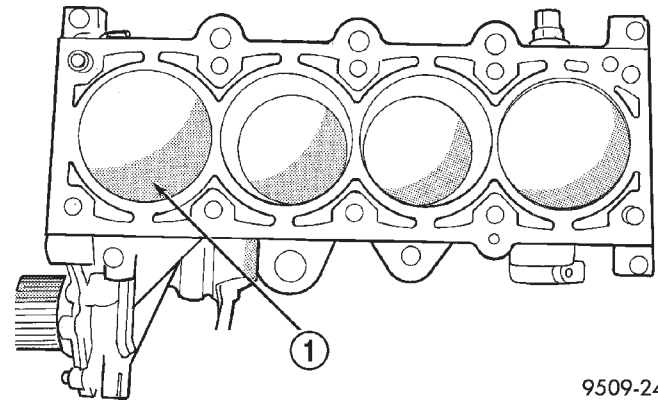
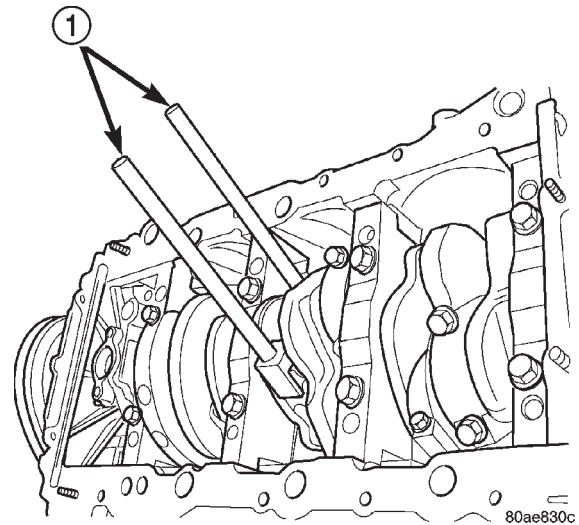

Fig. 108 Piston Markings
Fig. 110 Connecting Rod Guides—Typical
- (1) Remove cylinder head and oil pan. Refer to procedures in this section.
- (2) Remove top ridge of cylinder bores with a reliable ridge reamer before removing pistons from cylinder block. **Be sure to keep tops of pistons covered during this operation.** Mark piston with matching cylinder number (Fig. 108).
(4) Pistons will have a stamping in the approximate location shown in (Fig. 108). These stamps will be either a directional arrow or a weight identification for the assembly. L is for light and H is for heavy. These assemblies should all be the same weight class. Service piston assemblies are marked with a S and can be used with either L or H production assemblies. The weight designation stamps should face toward the timing belt side of the engine.
(5) Pistons and connecting rods must be removed from top of cylinder block. Rotate crankshaft so that each connecting rod is centered in cylinder bore.
(6) Remove connecting rod cap bolts. **Do not use old bolts if reinstalling connecting rod.**
(7) To protect crankshaft journal and fractured rod surfaces, install Special Tool 8189, connecting rod guides onto connecting rod (Fig. 110). Carefully push each piston and rod assembly out of cylinder bore.
(4) The weight stamp designation L or H will be in the front half of the piston should face toward the front of the engine (Fig. 108).
(5) Rotate crankshaft so that the connecting rod journal is on the center of the cylinder bore. Lubricate connecting rod journal with clean engine oil.
(6) Position upper bearing half and install Special Tool 8189, connecting rod guides onto connecting rod (Fig. 110).
(7) Insert rod and piston assembly into cylinder bore and carefully guide rod over the crankshaft journal.
(8) Tap the piston down in cylinder bore, using a hammer handle. At the same time, guide connecting rod into position on connecting rod journal.
(9) Remove Special Tool 8189, connecting rod guides.